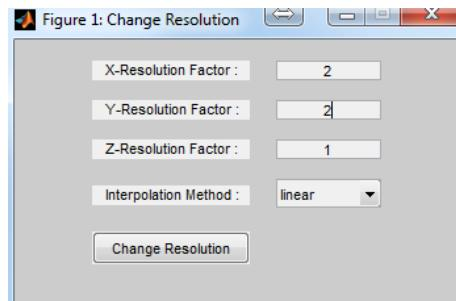

Figure 6.14: Interpolation Window. An example is shown for doubling resolution in x and y direction by using linear interpolation.
- : Resample current matrix by using chosen interpolation method (Figure 6.14). The user can specify sampling factors in x, y and z direction for 3D matrix.